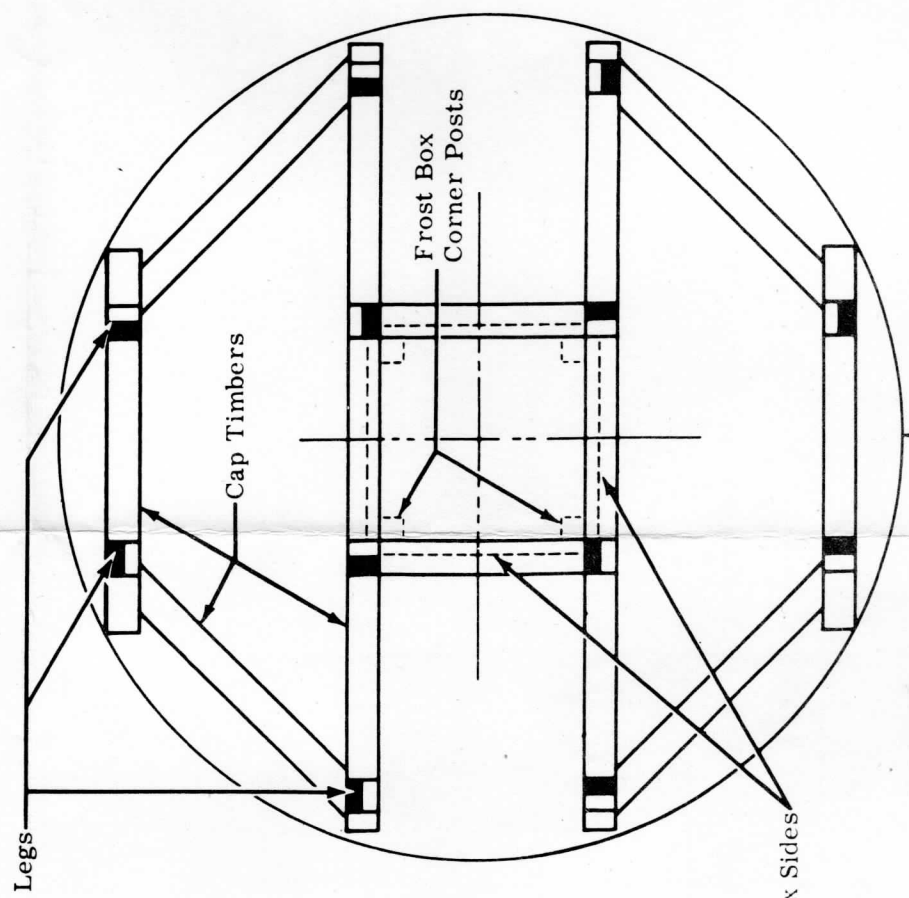

FIGURE 5.
11. Glue the cap timbers to the tops of the legs, as shown in Fig. 5. Cut them to length and bevel where necessary. Use Fig. 5 for cutting and to show assembly.